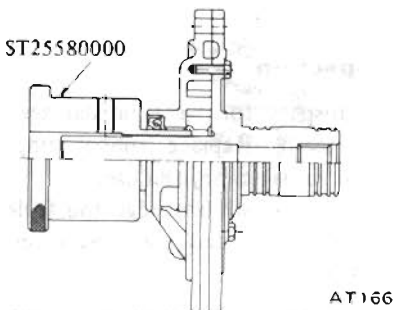

Fig. AT-98 Centering oil pump
2. Using Oil Pump Assembling Gauge ST25580000, install pump cover to pump housing as shown in Figure AT-98.